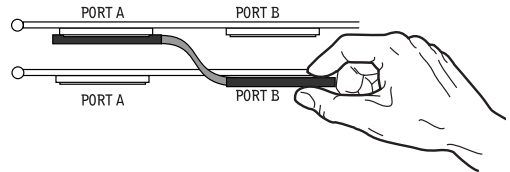

Figure 3. Top view of two HD cards connected with TDM FlexCable
**3** Connect the Port A connector of the FlexCable to Port A on the second card. Push down gently but firmly until the cable is fully connected to the card as shown in Figure 3. Next, attach the other end of the FlexCable (labeled Port B) to Port B on the first card.